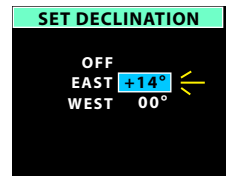

Fig. 89B - SET DECLIN
- > If EAST (or WEST) is selected, the numeric value with ° icon will be highlighted & flash (Fig. 89B).